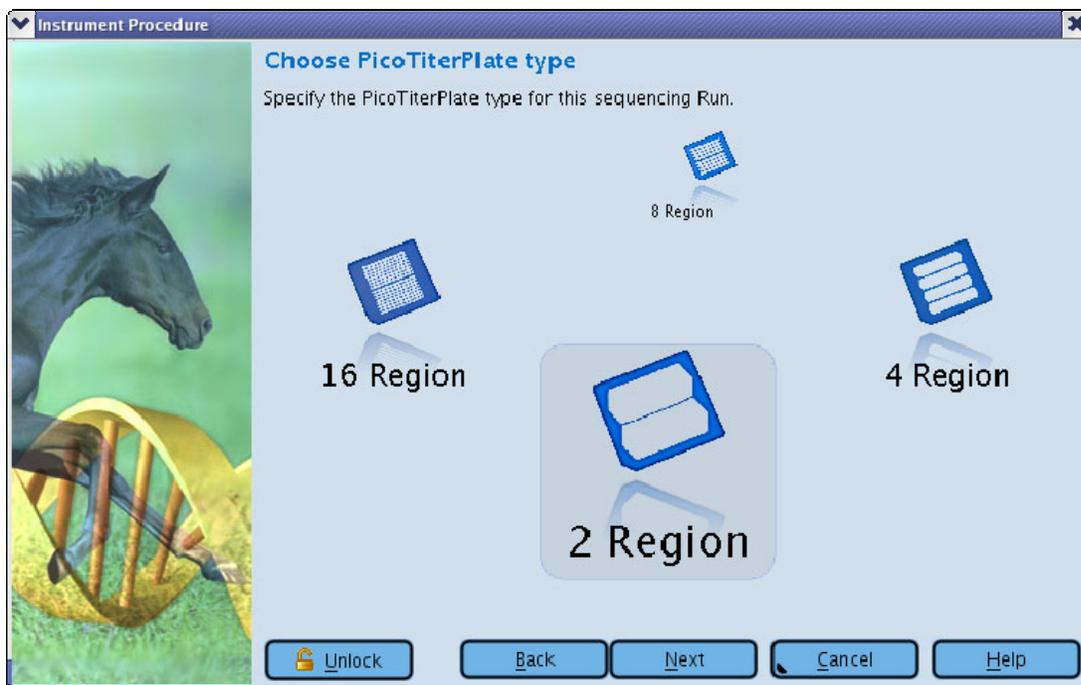

Figure 13: GS Sequencer Run Wizard – ‘Choose PicoTiterPlate type’ window
5. **Choose PicoTiterPlate type** (Figure 13) – Specify the bead loading gasket used to load the DNA sample onto the PTP device. The choices of gaskets presented match the sequencing Kit choice made in the previous step.